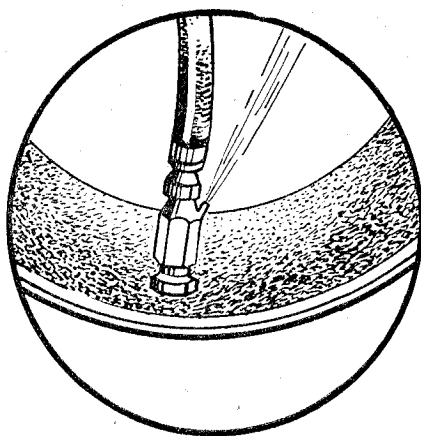

Fig. 40
- (1) Unscrew the air part of the inner tube valve. Caution, the water will squirt out!
- (2) When draining, turn the wheel slightly from time to time to get the valve in the upper position and turn the wheel back, thus placing the valve in its bottom position.
- (3) Remove the residue of water — screw on the water valve (Fig. 40) and inflate the tyre with air until water ceases to flow out from the pipe.